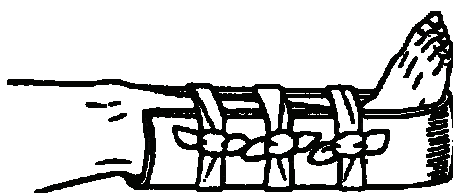

Figure 3-16. Splint to a lower leg or ankle
- b. If you are applying the splint to a lower leg or ankle, position it so the bend is on the bottom of the footgear or foot. Refer to Figure 3-16.